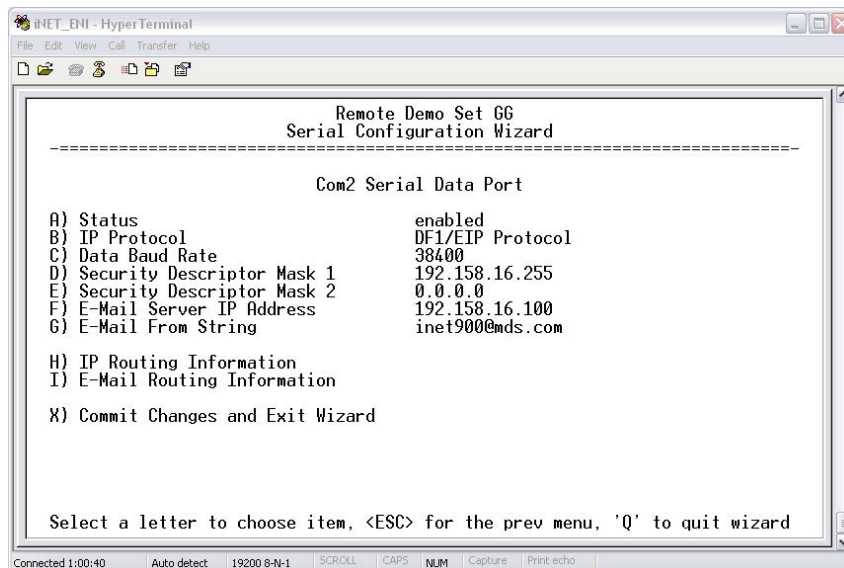

Figure A-9. Save COM2 Configuration Changes
8. Press **X** to save the COM2 port configuration changes. See Figure A-9.